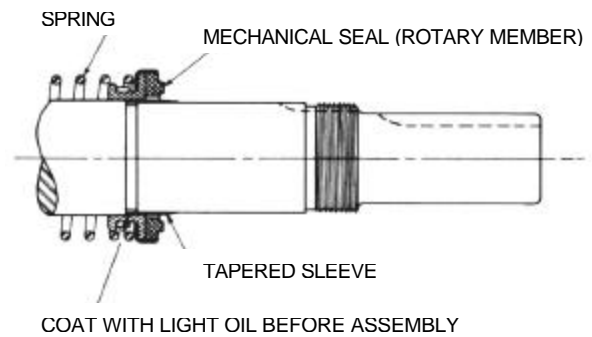

FIGURE 11
4. Place tapered installation sleeve on shaft, refer to Figure 11. Sleeve is furnished with GG, AS, AK and AL replacement mechanical seals. Coat rotor shaft, tapered installation sleeve and inner diameter of mechanical seal rotary member with a generous amount of non-detergent SAE 30 weight oil. Petrolatum may be used but grease is not recommended.